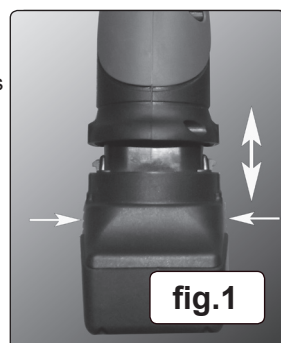

fig.1
- 4.1.2. Press the battery latches in and withdraw the battery pack (fig.1).